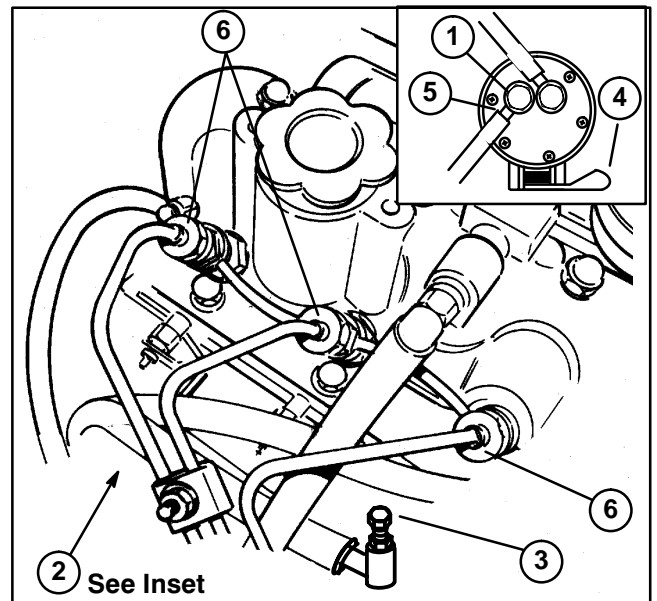

Figure 11
5. On the front of the engine by the oil filter, find transfer pump inlet screw location (2). Note fitting angle (5) on the transfer pump inlet and loosen left transfer pump screw (1) only (Fig. 11).
6. When a steady stream of fuel flows out of the transfer pump screw (1), tighten screw and retain noted fitting angle (5) from step 5 above (Fig. 11).
7. Loosen injection pump inlet screw (3) on the front of the engine (Fig. 11).
8. Pump priming lever (4) until a steady stream of fuel flows out of injection pump inlet screw (3), then tighten screw. **Do not over tighten inlet screw** (Fig. 11).